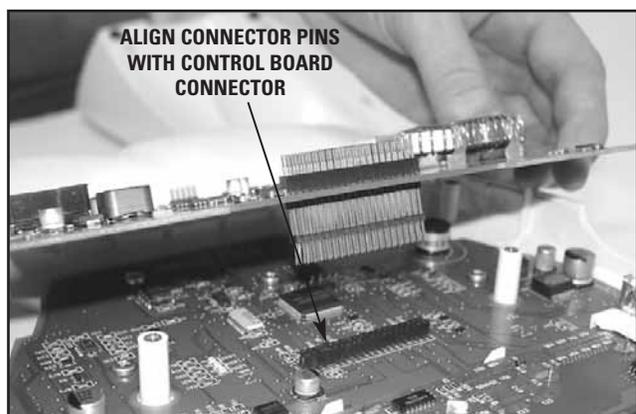

FIGURE 6.16
2. Place new Ultrasound board as shown in Figure 6.16 over Control Board and align connector pins up with Control Board Connector.